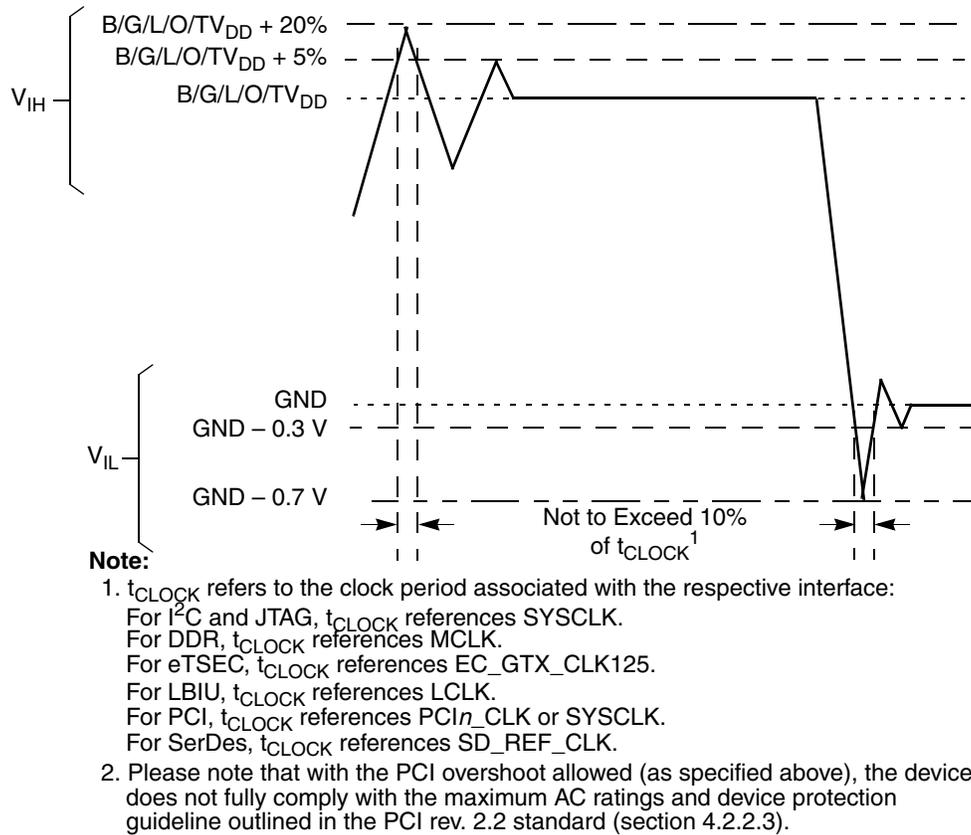

Figure 2. Overshoot/Undershoot Voltage for GV_{DD}/OV_{DD}/LV_{DD}/BV_{DD}/TV_{DD}
- (M,L,O)V_{IN} and MV_{REF} may overshoot/undershoot to a voltage and for a maximum duration as shown in Figure 2.
Figure 2 shows the undershoot and overshoot voltages at the interfaces of this device.